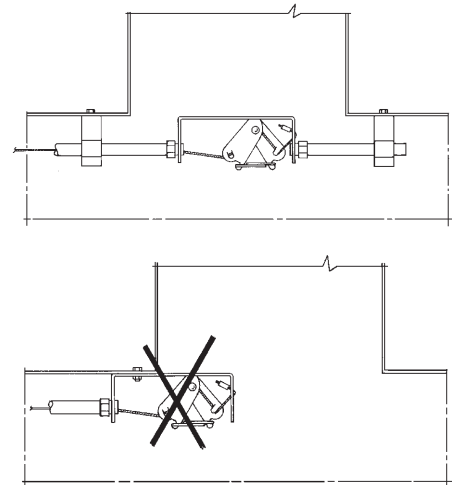

FIGURE 5-23
2. For a terminal detector located in a duct or header opening, secure both sides of the detector bracket with conduit, as shown in Figure 5-23.